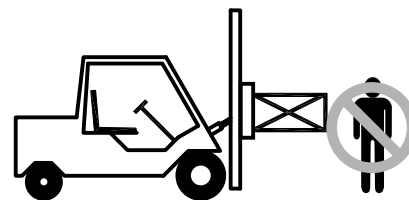

Figure 2-3
- Never stand in front of or beside an attachment that is being operated. Never allow another person to approach an attachment that is being operated. (Figure 2-3)